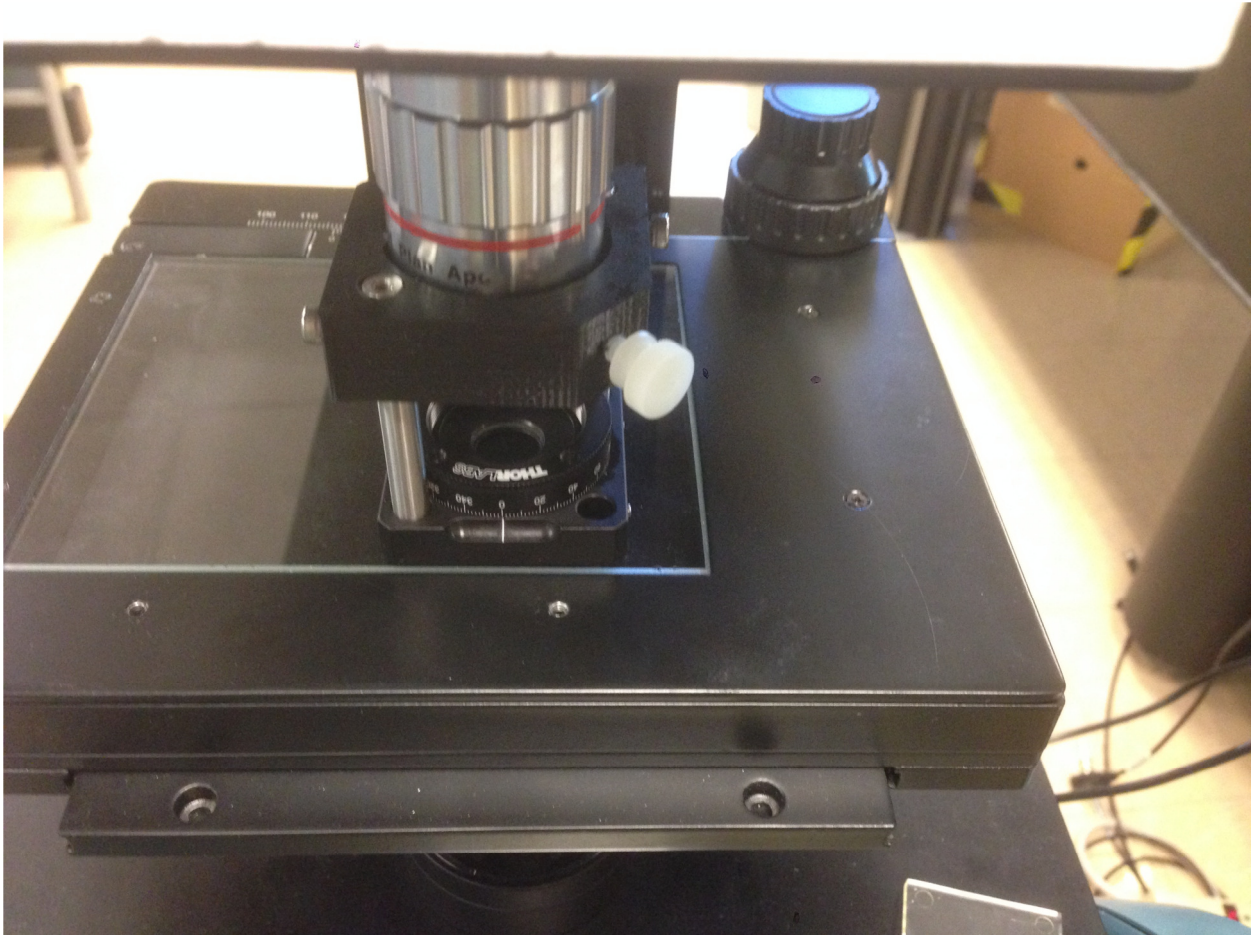

Figure 26.
11. Be sure the front of the rotator is square to the stage as shown in Figure 26. This is best accomplished by raising the stage to support the mount. (This also ensures that everything is flat)